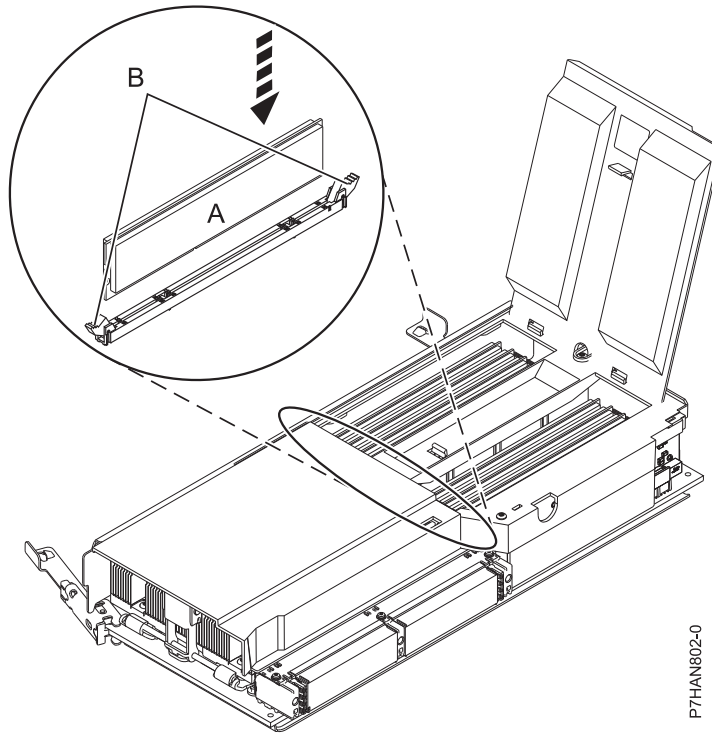

Figure 44. Replacing a memory module
7. Insert the memory module firmly into the connector **(A)**, as shown in Figure 44 on page 82.
8. Secure the memory module with the locking tabs **(B)** located at each end of the memory module connector, as shown in Figure 44 on page 82.